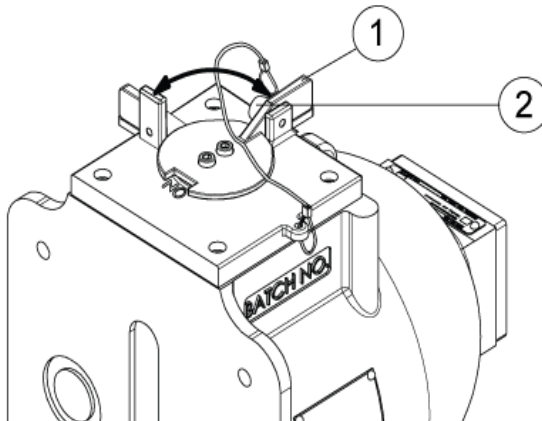

Figure 6.2 Safety Screws for Secure Switching Position
4. Screw out safety screw (3) (screw is fixed to the safeguard cable and is not detachable).
5. Turn the operating lever 90° clockwise up to the stop. "ON" (1) then appears in the position recess of the operating lever.
6. Secure the operating lever in position "ON" (1).
7. Screw in the safety screws (3) as shown in Figure 6.2. Vibrations or other external influences can cause uncontrolled movement of the operating lever.